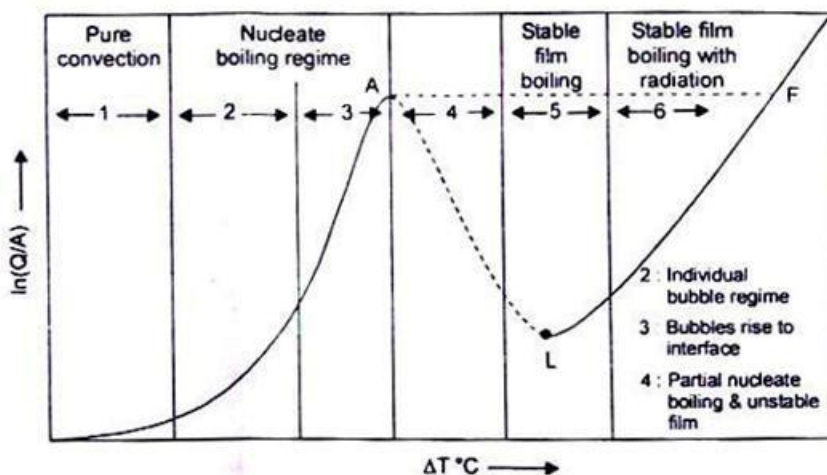

Fig.2 Heat Flux - Temperature difference curve for boiling water heated by a wire (Nukiyama's boiling curve for saturated water at atmospheric pressure)
**(iv) Critical Heat Flux and Burnout Point** - temperature of the heating metallic surface is very high and the heat transfer occurs predominantly by radiation, thereby, increasing the heat flux. And finally, a point is reached at which the heating surface melts - point F in Fig.2. It can be observed from the boiling curve that the whole boiling process remains in the unstable state between A and F. Any increase in the heat flux beyond point A will cause a departure from the boiling curve and there would be a large increase in surface temperature.